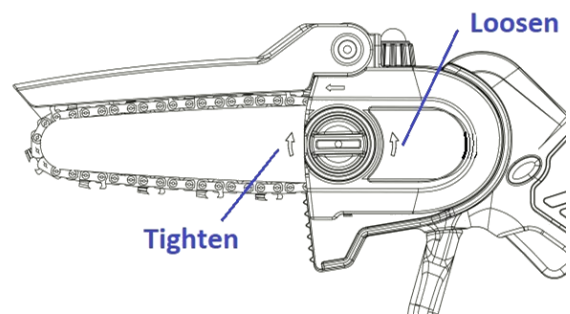

Fig. 5
4.7- Saw chain tension adjustment (Fig. 5)
- **WARNING!** Remove battery pack (7) from the chainsaw before servicing.